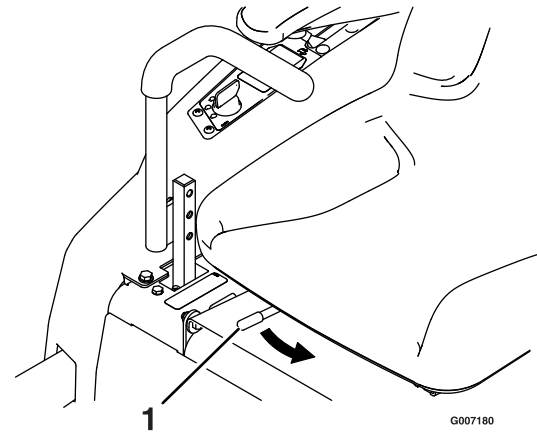

Figure 12
1. Push the adjustment lever towards the center of the machine to release the seat adjuster track (Figure 12).